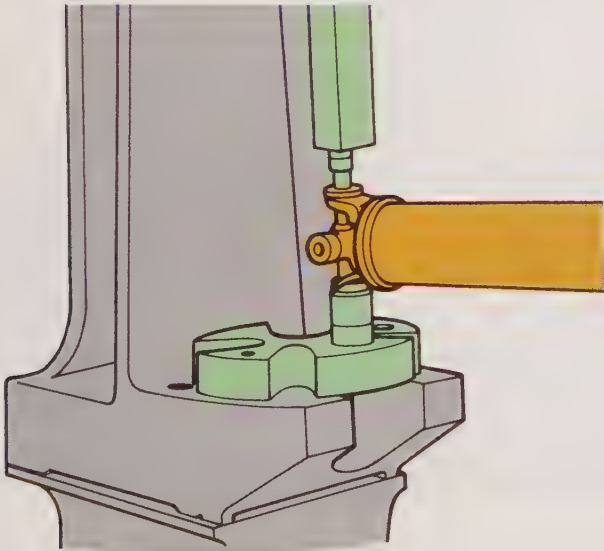

Figure 13-18. This shows an arbor press being used to remove a bearing cup from a yoke. (General Motors)
- ❑ An arbor press, as in **Figure 13-18**.